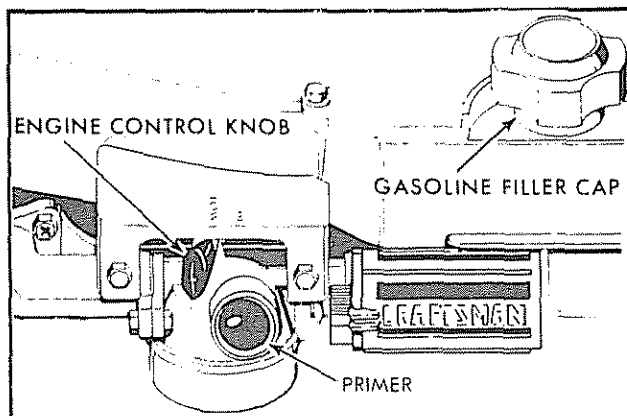

FIG. 12
The engine speed is controlled by a lever (red knob) located on right side of engine. It has "HIGH" and "LOW" positions. "HIGH" position is for starting engine, heavy cutting and better grass bagging. "LOW" position is for light cutting, trimming and fuel economy (See Fig. 12).
2. Push lever forward to "HIGH" position (See Fig. 12).
3. When starting a cold engine, push the primer five (5) times before pulling starter rope. Use firm pushes when pushing primer, wait several seconds between each push (See Fig. 12).